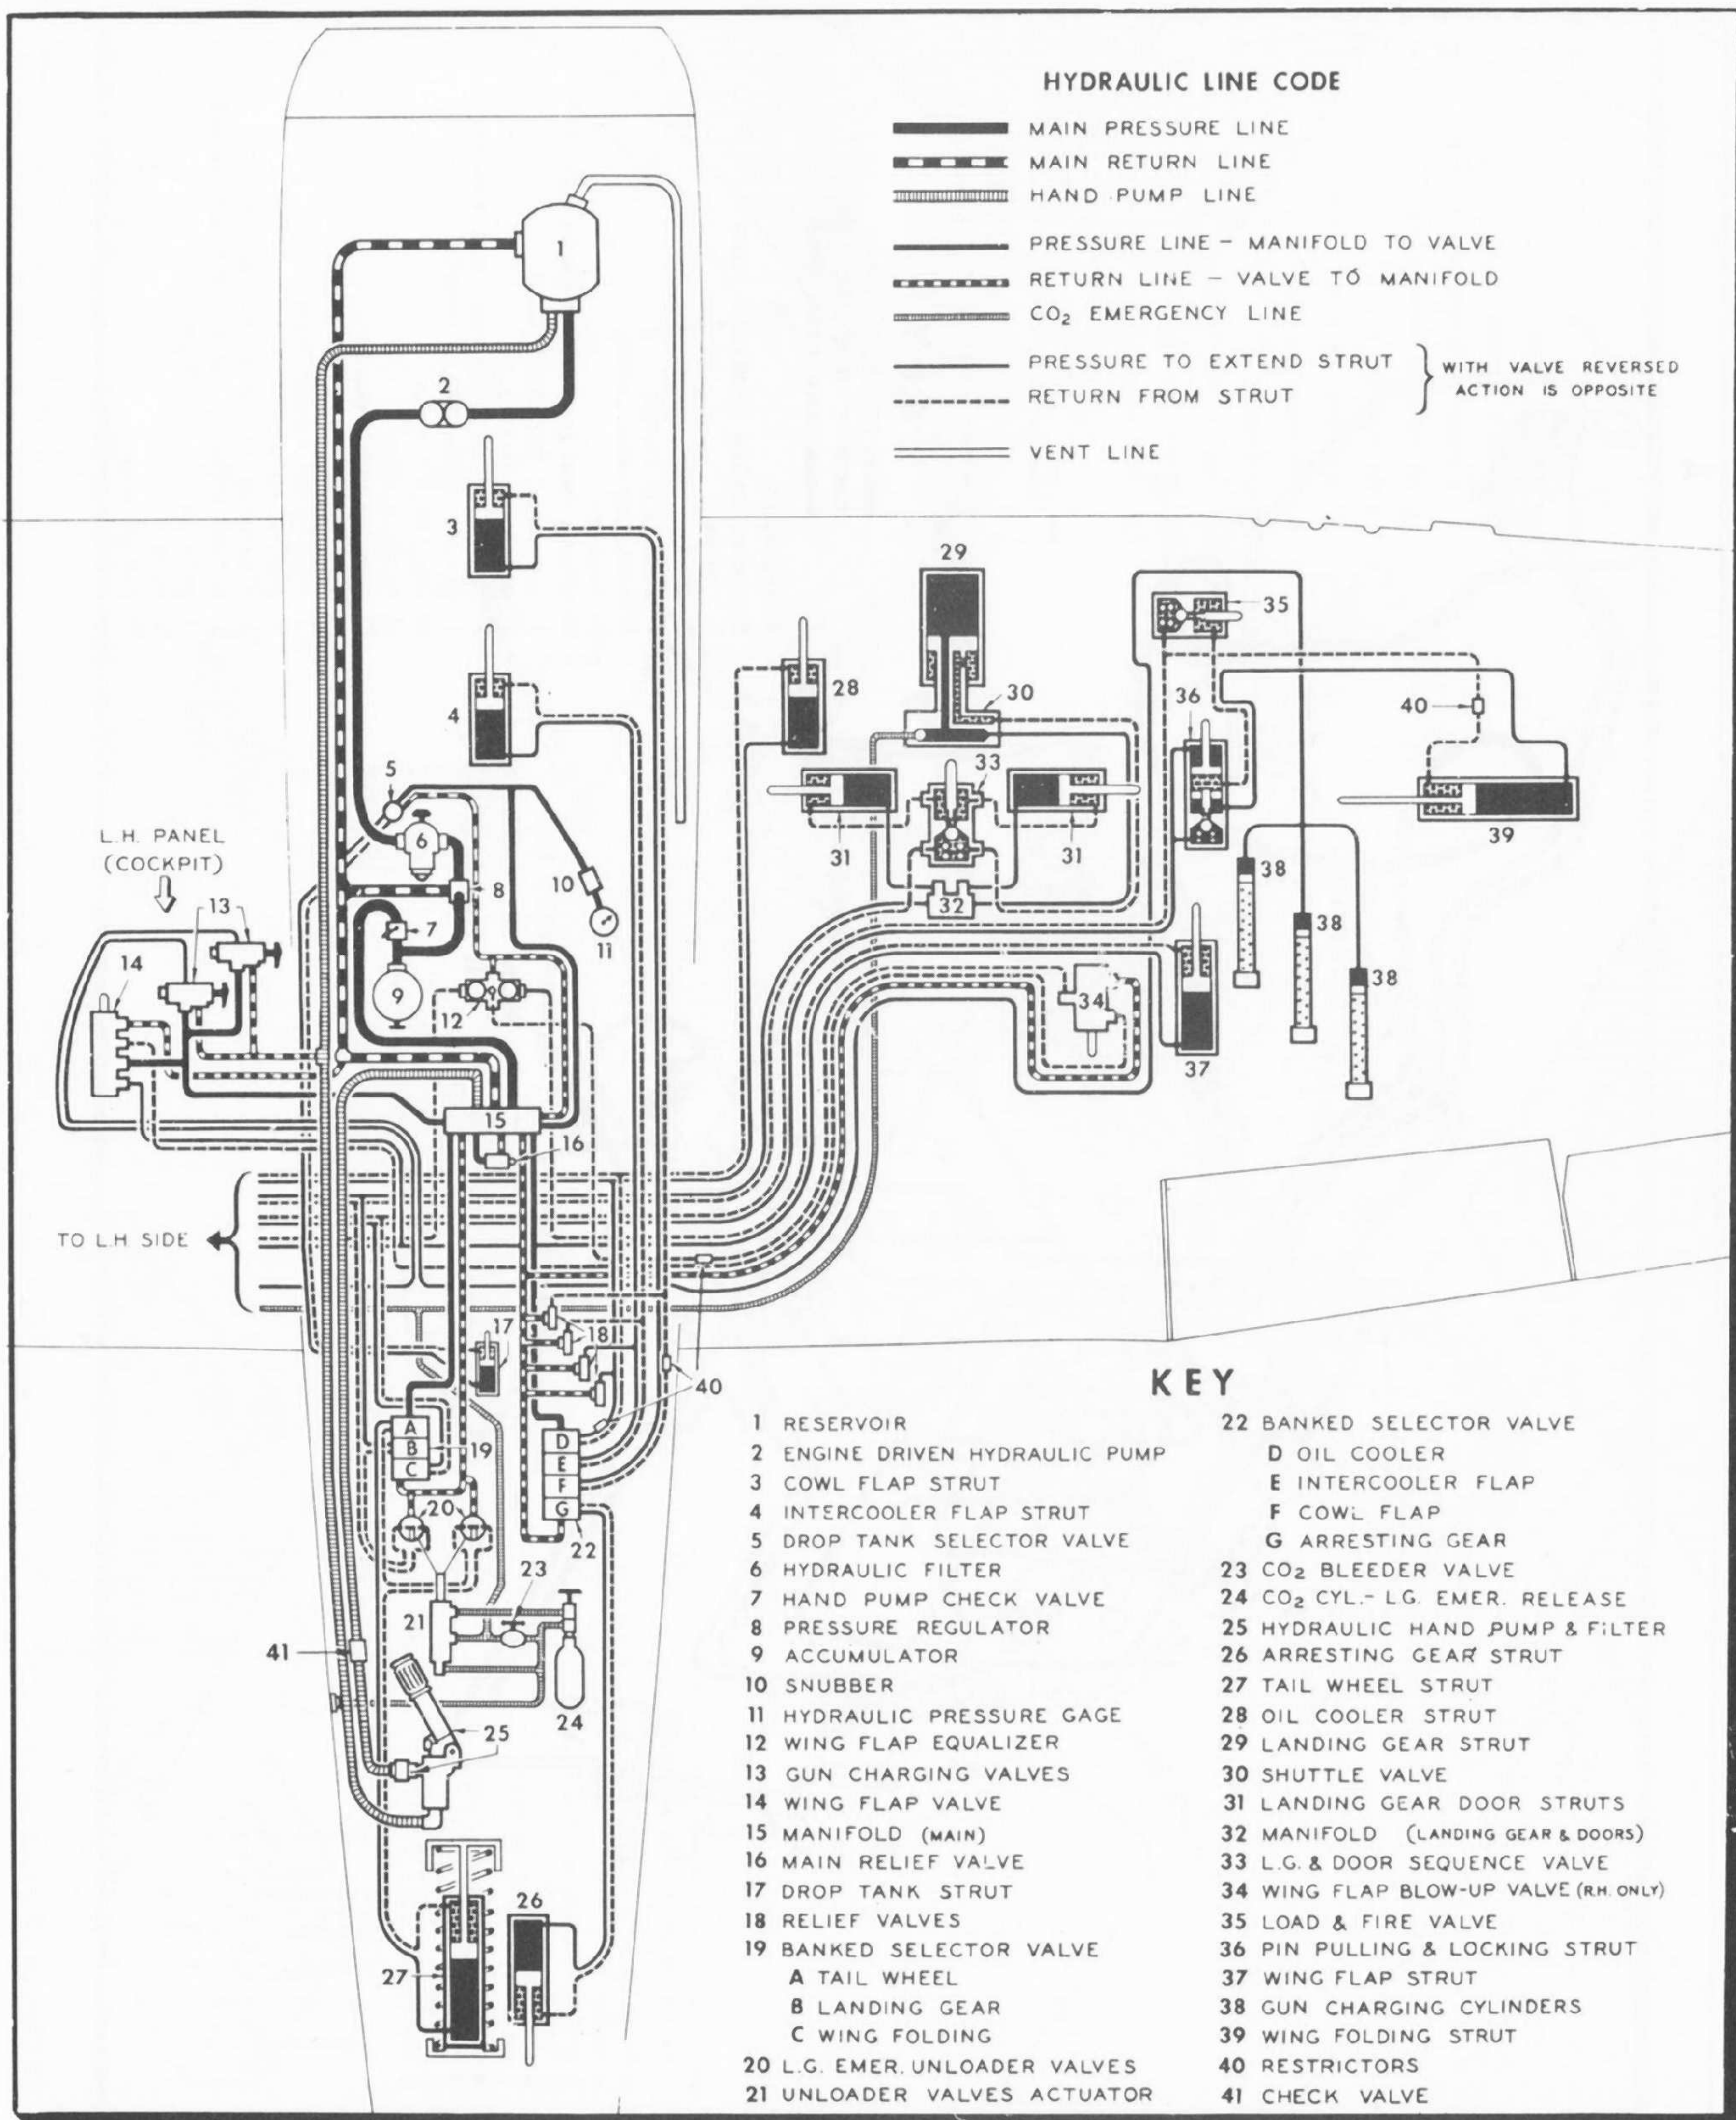

Fig. 20 — Hydraulic System Diagram
(1) The following items are operated by the airplane hydraulic system (refer to figures 20, 21, 22, 23, 24, 25, and 26):